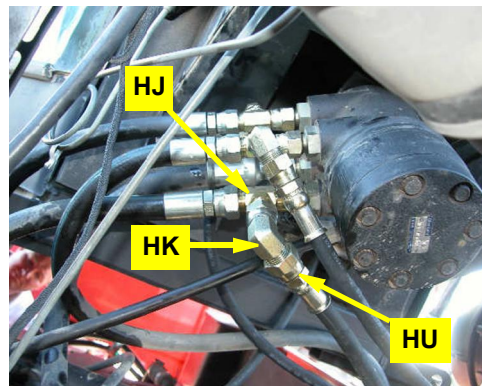

Figure 6a: Pressure hose connected at orbital
- a. Install elbow adapter **HK** at the branch of the run tee **HJ** installed on the steering orbital at step 4a. Connect the pressure hose **HU** to adapter **HK** (Figure 6a).